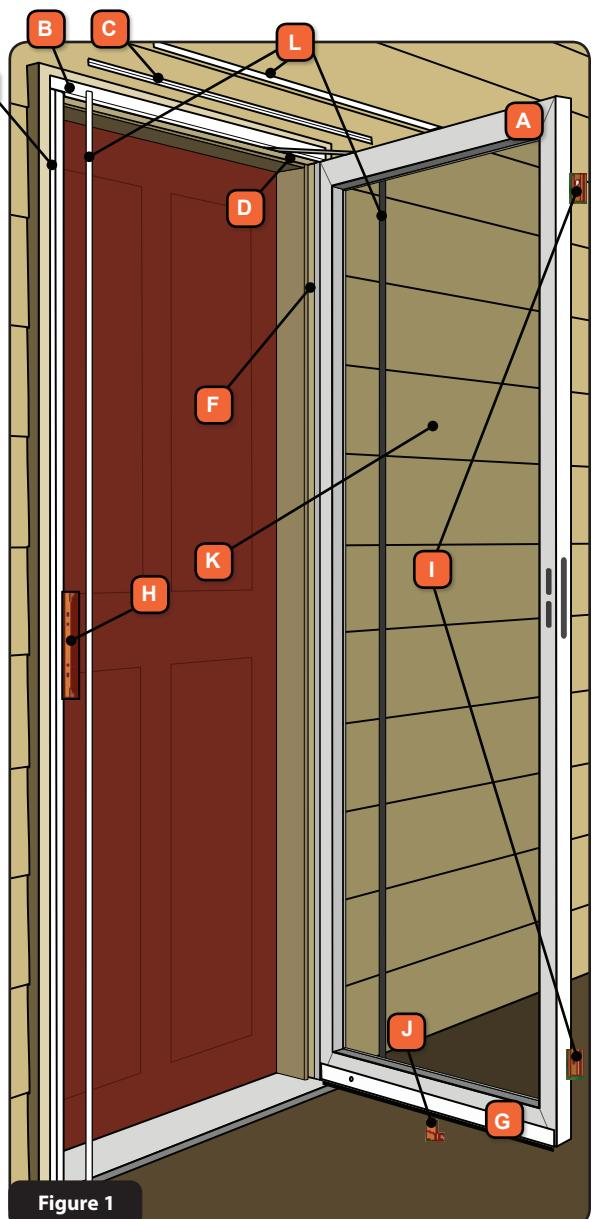

Figure 1
1. Measure the width at the top (W1), middle (W2), and bottom (W3) of the opening (see Figure 1). Measure from the inside of the exterior trim. Utilizing the narrowest width, reference chart below.